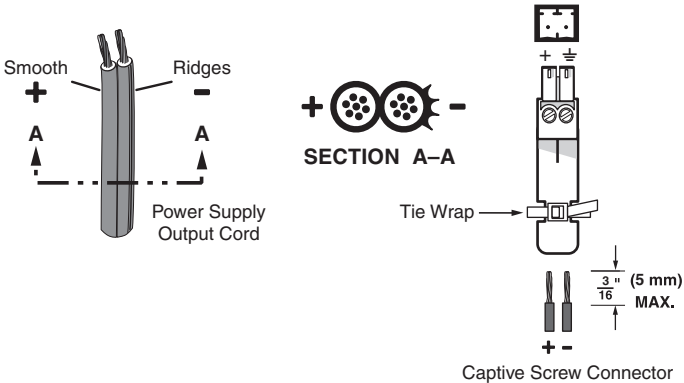

Figure 1-7 — Power connector wiring
- ⑥ **Power connector** — Plug the external 12 VDC power supply into this 2-pole captive screw connector on both the transmitter and the receiver. Figure 1-7 shows how to wire the connectors.
CAUTION Power supply voltage polarity is critical. Incorrect voltage polarity can damage the power supply or MTP. Identify the power cord negative lead by the ridges on the side of the cord (Figure 1-7).